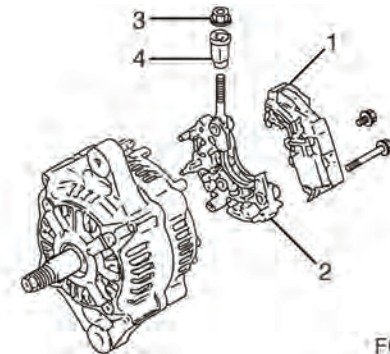

Figure 389
4. Remove the bolt retaining the regulator assembly (1, Figure 389) to the holder (2, Figure 389).
5. Remove the bolts retaining the holder (2, Figure 389) to the rear frame housing. Remove the holder.
6. Remove the nut (3, Figure 389) retaining the insulation bushing (4, Figure 389). Remove the insulation bushing.